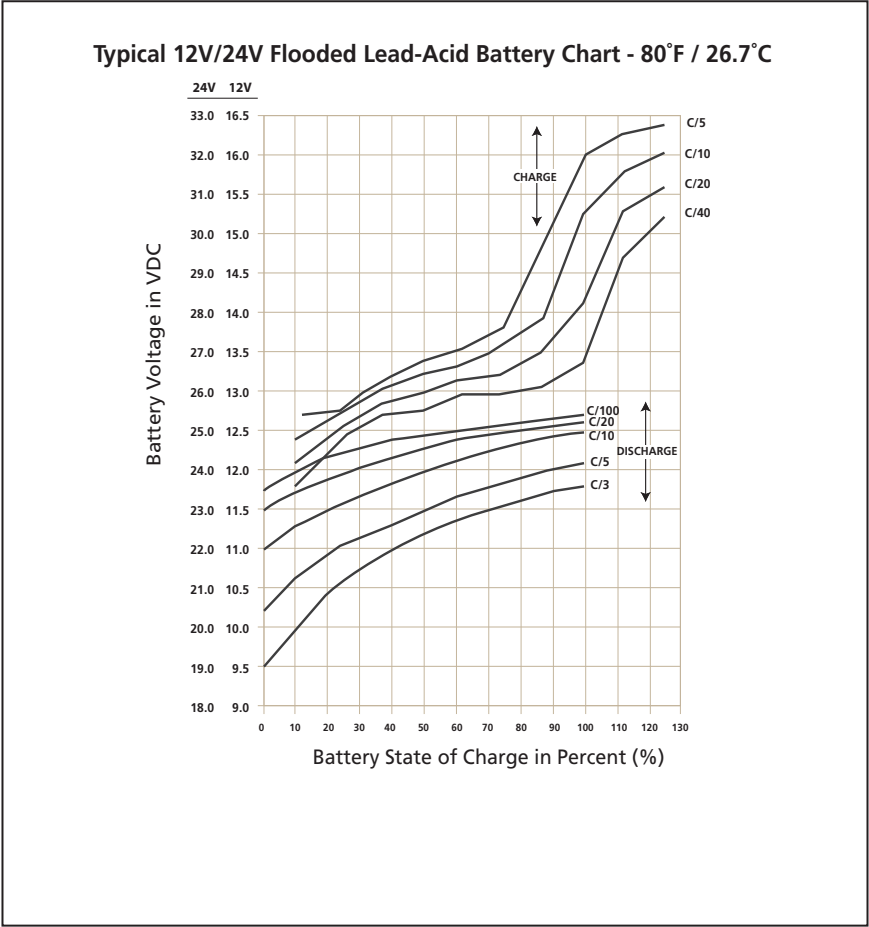

Fig 7.1 Charging / Discharging Curves for Typical 12V/24V Flooded Lead Acid Battery
7.7.1 Fig 7.1 shows examples of State of Charge / Discharge Curves for different C-rates for typical 12V / 24V Lead Acid Battery at 80°F / 26.7°C. These curves are used to determine the State of Charge / Discharge of the battery based on its terminal voltage.
7.7.2 Example of Determining State of Charge (using Fig 7.1) when Charging 12V, 100Ah Battery at C-rate of 0.1C or C/10 or 10A: Refer to Charge Curve marked C/10 of the upper 4 curves marked "CHARGE". States of Charge at different battery terminal voltages will be: (a) At 5.3V = 100% charged; (b) At 14.3V = 90% charged; (c) At 13.5V = 70% charged; (d) At 12.5V = 15% charged
7.7.3 Example of Determining State of Discharge (using Fig 7.1) when Discharging 12V, 100Ah Battery at C-rate of 0.33C or C/3 or 33.3A: Refer to Charge Curve marked C/3 of the lower 4 curves marked "DISCHARGE". States of Discharge at different battery terminal voltages will be: [a] At 9.5V = 100% discharged (0% charged); [b] At 10.4V = 80% discharged (20% charged); [c] At 11.5V = 28% discharged (72% charged) and [d] 11.75V = 0% discharged (100% charged)
The discharge curves in Fig. 7.1 show the % State of Charge versus the terminal voltage of typical Flooded Lead Acid Battery under different charge /discharge currents, i.e. “C-rates” and fixed temperature of 80°F. (Please note that the X-Axis of the curves shows the % of State of Charge. The % of State of Discharge will be 100% - % State of Charge).
As stated earlier at Section 7.10, the buzzer alarm is triggered when the voltage at the DC input terminals of the inverter has dropped to around 10.5V for a 12V battery or 21V for a 24V battery at C-rate discharge current of C/5 Amps. Please note that the terminal voltage relative to a particular of State Discharge decreases with the rise in the value of the discharge current. For example, terminal voltages for a State of Discharge of 80% (State of Charge of 20%) for various discharge currents will be as given at Table 7.5 (Refer to Fig 7.1 for parameters and values shown in Table 7.5):
Inverters are normally provided with a protection to shut down the output of the inverter if the DC voltage at the input terminals of the inverter drops below a threshold of around 10V for a 12V battery or, 20V for 24V battery. Referring to the Discharge Curves given in Fig 7.1, the State of Discharge for various C-rate discharge currents for battery voltage of 10V/ 20V is as follows: (Please note that the X-Axis of the curves shows the % of State of Charge. The % of State of Discharge will be 100% - % State of Charge):